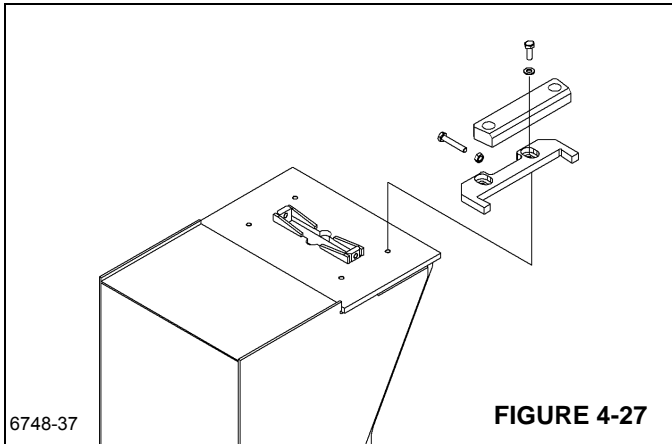

FIGURE 4-27
7. Remove the bolt, washer, and offset washer (Figure 4-27) securing each top rear adjustable wear pad and remove the wear pads, keeper plates and bolts from the top of the fly.